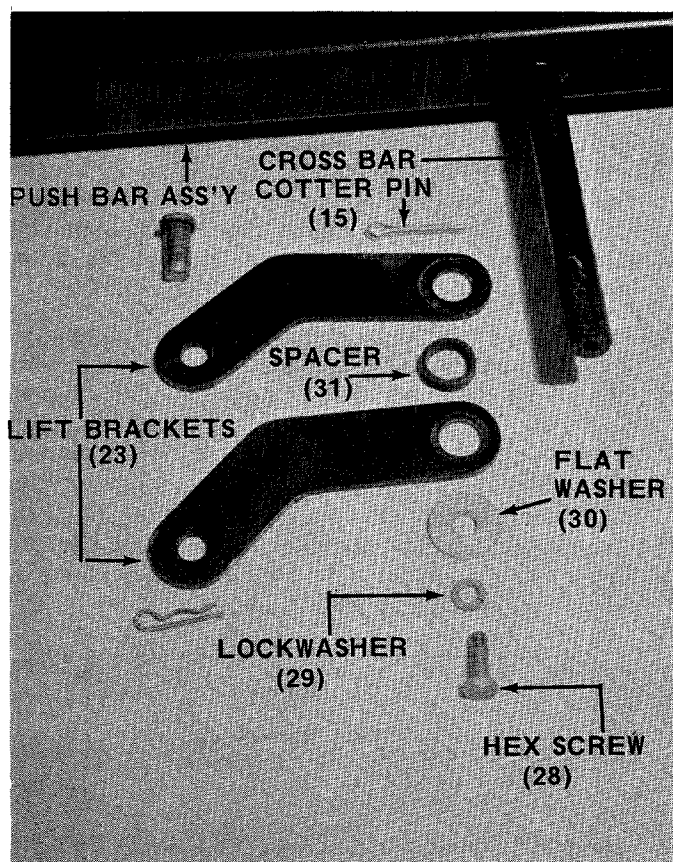

FIGURE 5
8. Assemble the lift brackets to the push bar assembly. See figure 5.
- A. Place cotter pins (15) in cross bar and bend ends over.
- B. Place lift bracket (23) on cross bar.